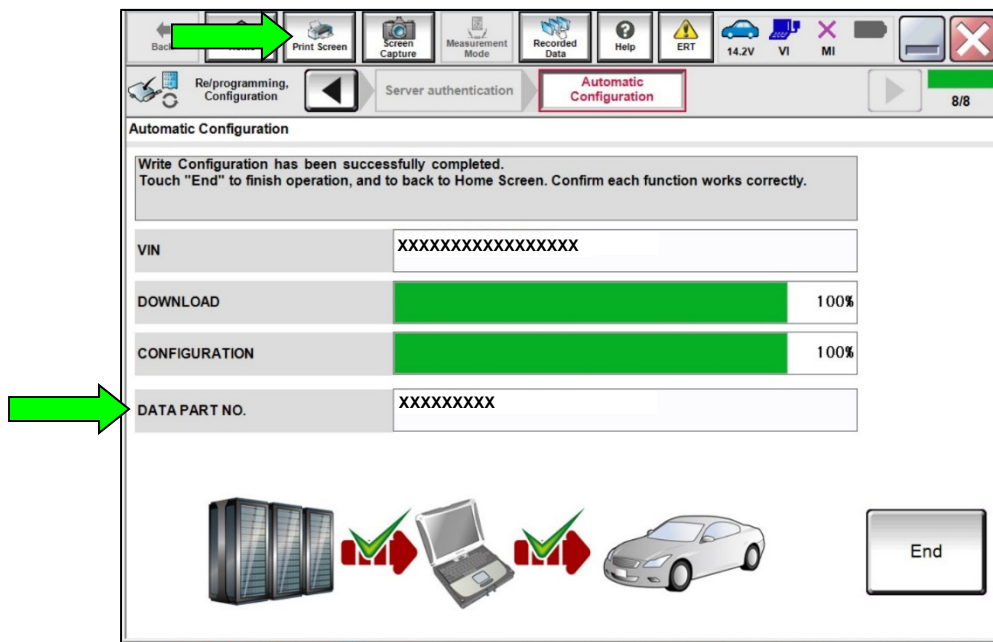

Figure 10
22. When the screen in Figure 10 displays, the configuration is complete.